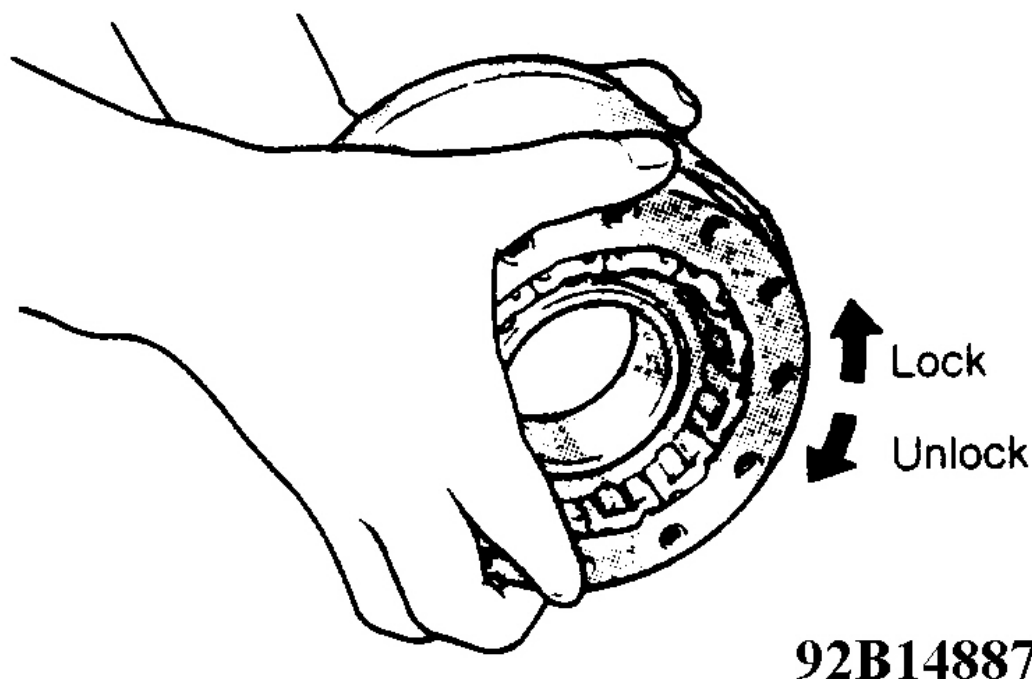

Fig. 12: Checking Overrunning Clutch Rotation
2. Insert retainer in cam, ensuring roller and spring **DO NOT** separate. Assemble cam with inner race of low-reverse drum. Check rotation direction. See **Fig. 12** .